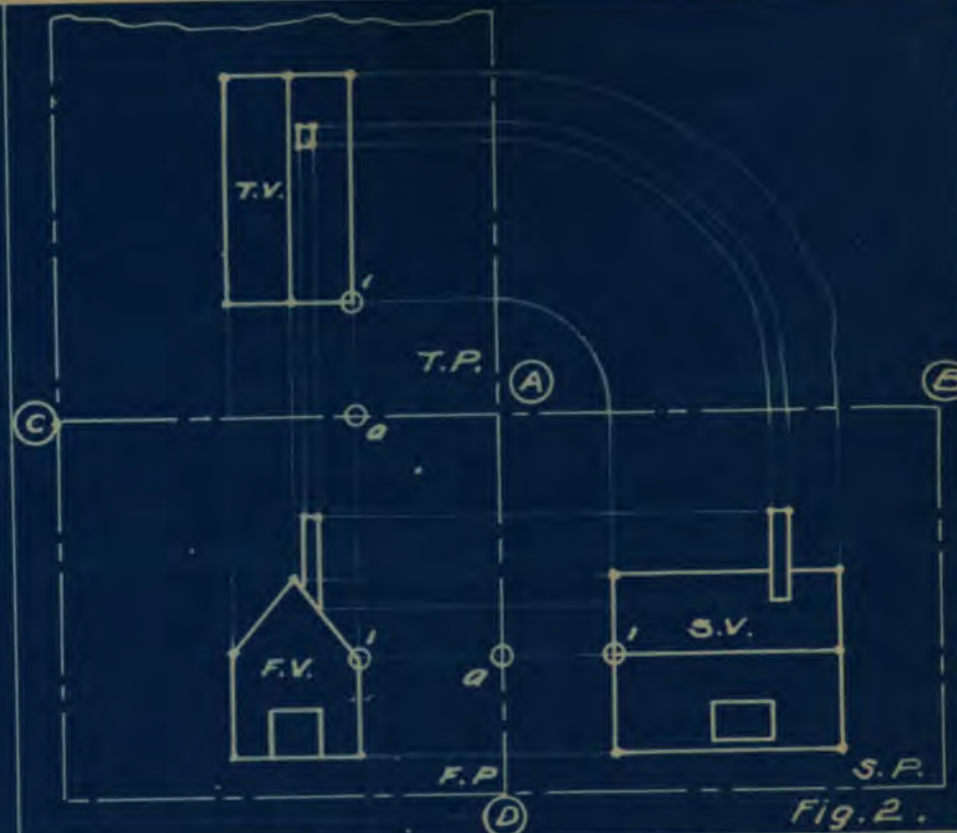

Fig. 2.
5. Consider Planes of Projection to be separated along AB. Turn T.P. on AC and S.P. on AD and spread all three planes out flat. Resulting location of views will be as in Fig. 2.